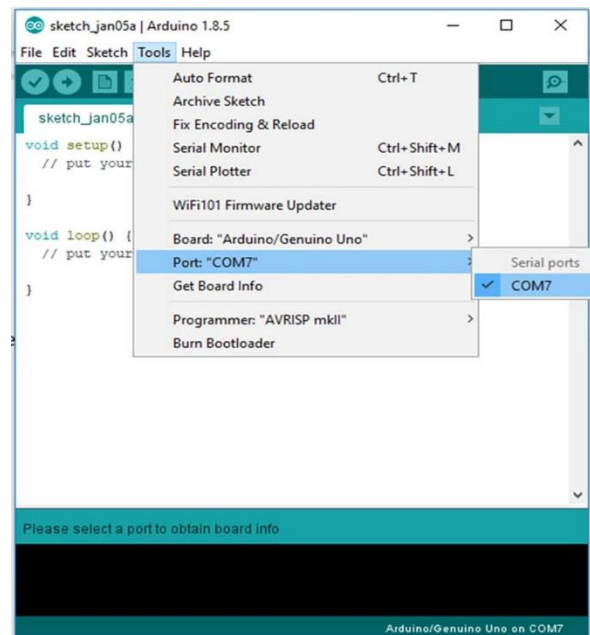

Figure 3
- Select port: Click Tool and select port as shown in figure 3.